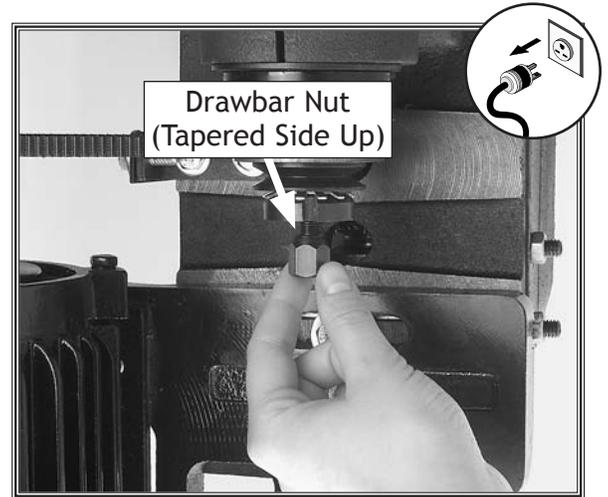

Figure 37. Threading the drawbar nut with the tapered side facing up.
4. Reach into the cabinet from the rear and thread the drawbar nut onto the drawbar with the tapered side of the nut facing up, as shown in **Figure 37**.